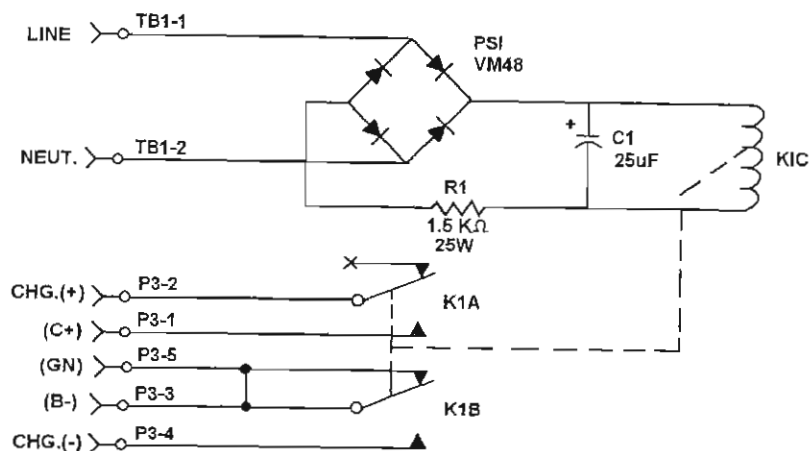
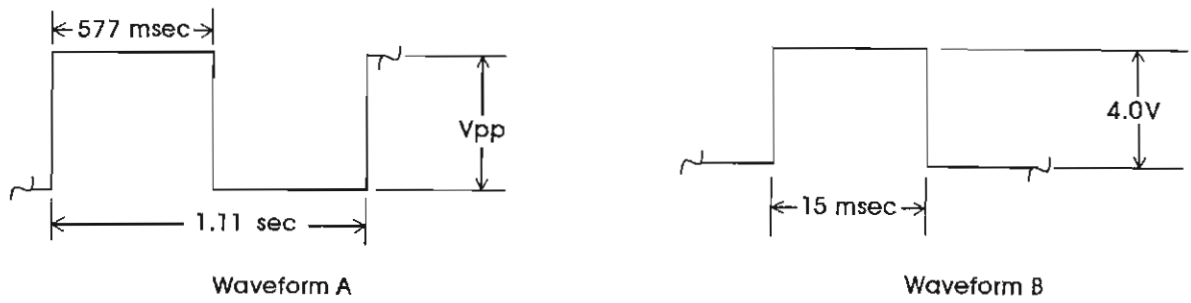
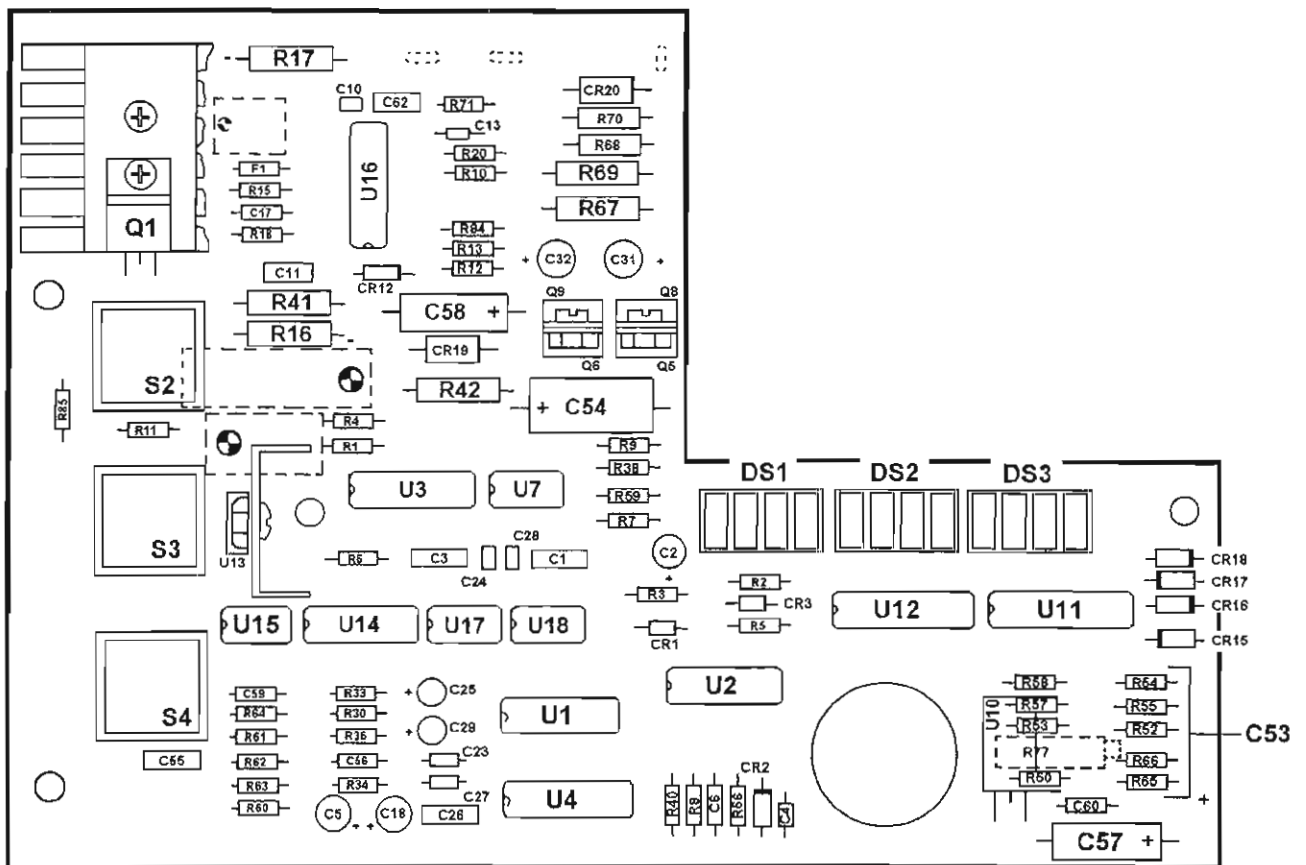

Figure 3-4. AC power supply PCB.
Figure 3-11. Test points.
Figure 3-12. Component layout - control PCB.
### 3-26. AC power supply PCB (fig 3-4).
- a. Test voltages and waveforms for specific operating modes are provided in figure 3-11 and table 3-9.
- (1) TP1 is ground
- (2) All voltages are VDC unless otherwise specified.
- (3) See figures 3-4 thru 3-10 for corresponding schematics.
- (4) All voltages are typical and tolerance is +/- 0.1 volts.
- (5) When handpiece is operating in the forward direction only.
- (6) When handpiece is operating in the reverse direction only.
- (7) When handpiece is operating in any mode except forward.
- (8) When handpiece is operating in any mode except reverse.
- c. A component diagram is provided in figure 3-12 to assist in locating the test points.